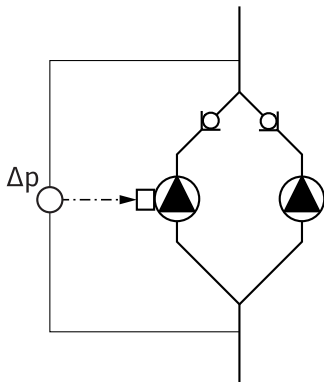

Fig. 13: Example, differential pressure sensor connection
- In the example in Fig. 13, the master pump is the left-hand pump in the direction of flow. Connect the differential pressure sensor to this pump.
The measuring points of the master pump differential pressure sensor must be on the suction and pressure side of the double-pump system in the corresponding collector pipe (Fig. 13).